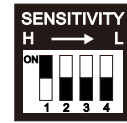

Figure 3
3. Set sensitivity ON(90%) in dip switch 1(Figure 3).